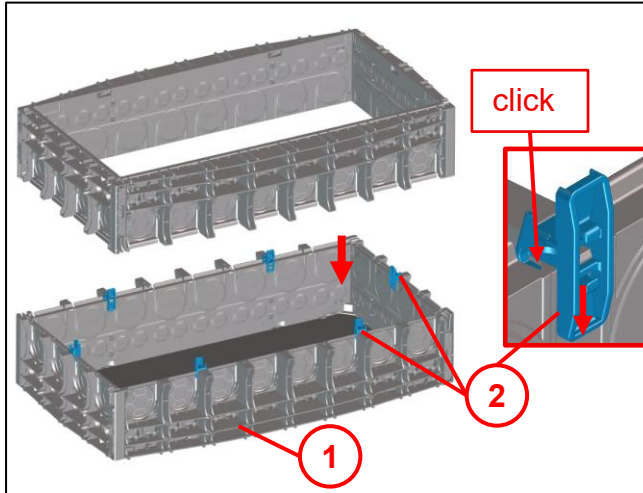

Fig. 14
- All frame elements can be installed upside down. (see Fig. 14)